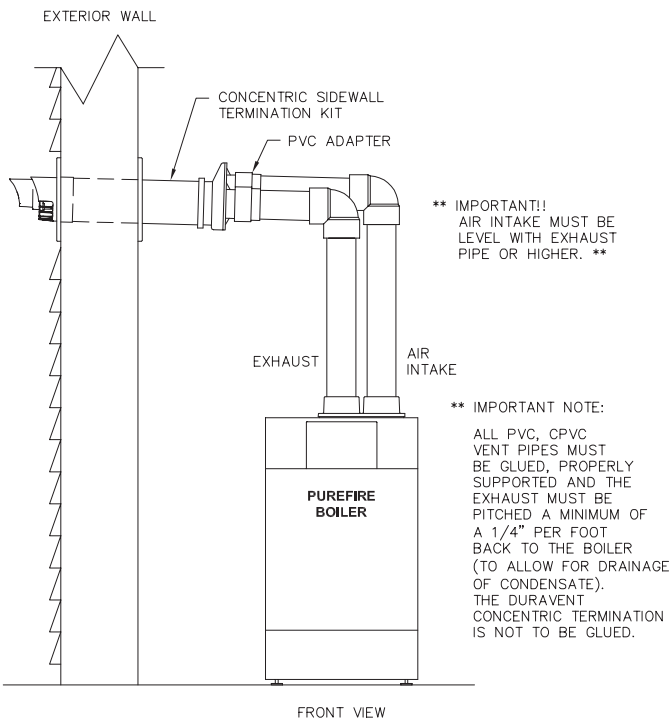

Figure 3.7: Optional Concentric Vent Kit Installation
- d. Figure 3.7 shows a sidewall vent configuration using an optional 4" concentric termination kit (544)